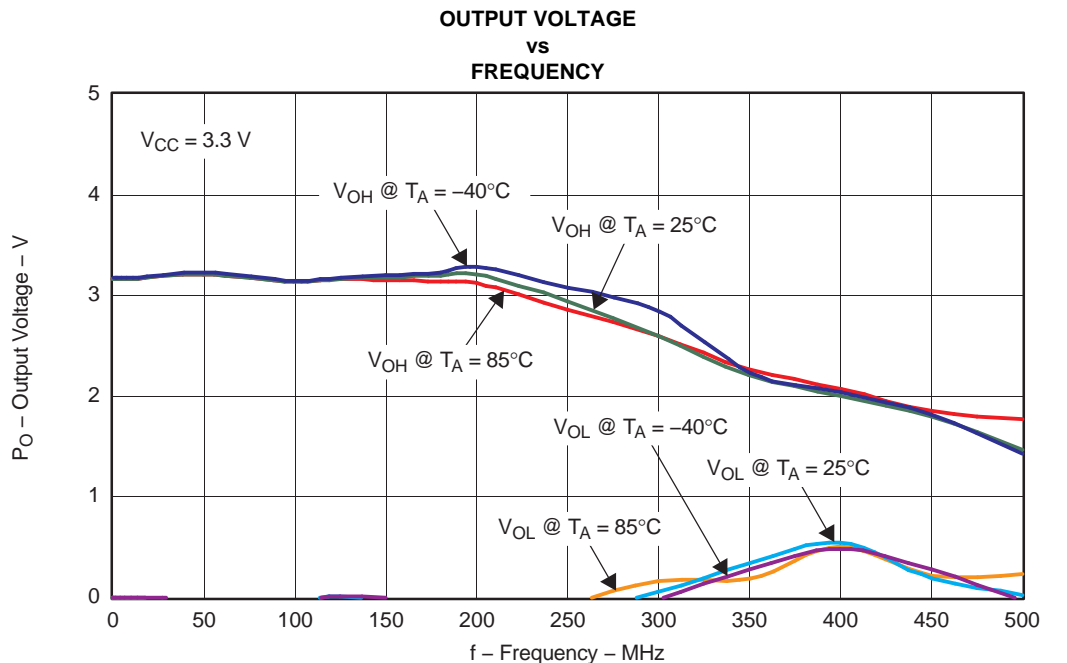

Figure 5.
- (4) f_{max} measured for $V_{OL} < 0.5\text{ V}$ and $V_{OH} > 2.4\text{ V}$. See Figure 5.
- (5) Skews are measured between outputs under identical conditions.
- (6) 200-mV input assured full logic swing at the output.